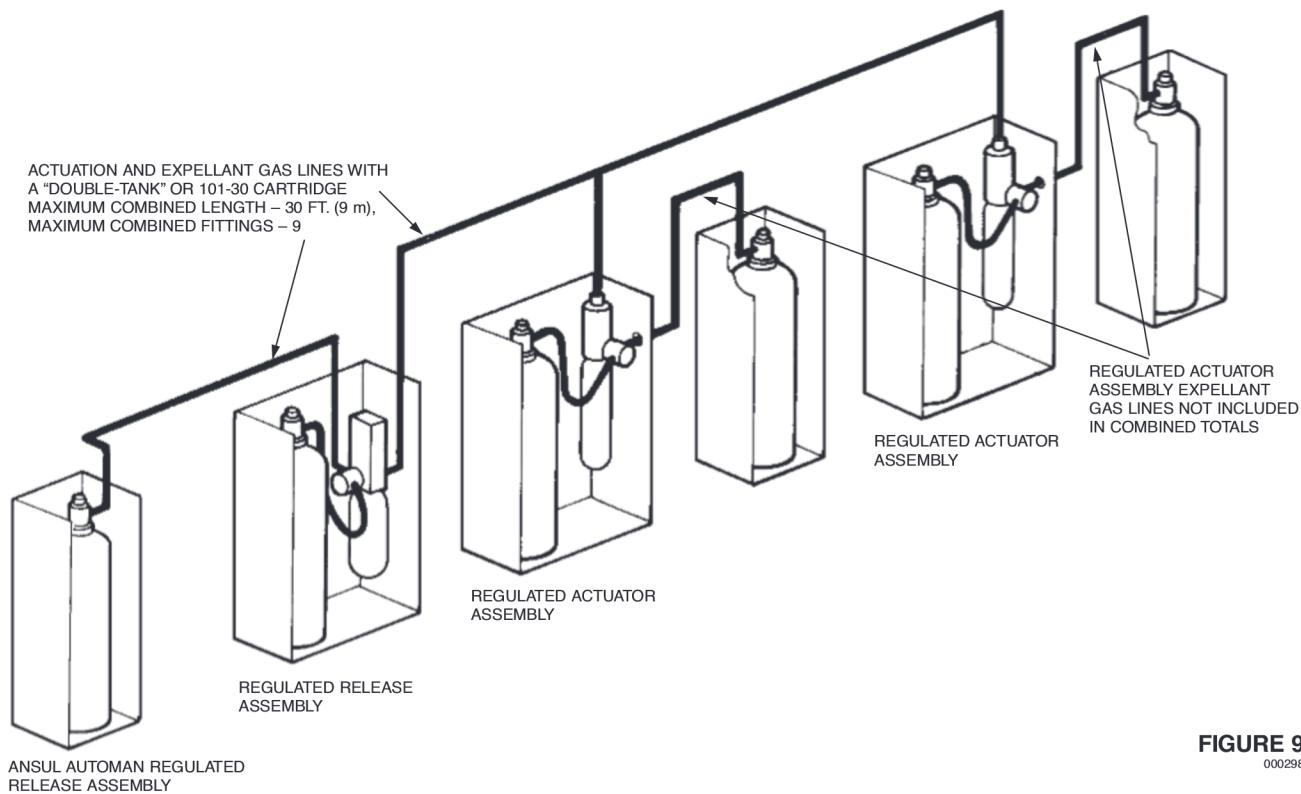

FIGURE 9
- ▶ 4. If an expellant gas line is connected to the regulated release assembly along with an actuation gas line, the total combined length of the actuation and expellant gas line **must not** exceed 30 ft. (9 m). See Figure 9.
- 4. If an actuation gas line is connected to the regulated release assembly along with an expellant gas line, the total combined length of the gas lines **must not** exceed 30 ft. (9 m) when using a "double-tank" nitrogen cartridge or a 101-30 CO₂ cartridge. See Figure 9.